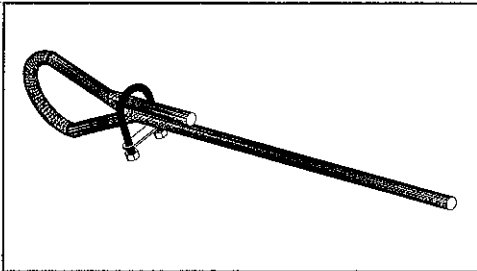

figure 8
3. Route 1 end of the lift cable through the chain link welded to the brush head assembly upright. Loop the loose end around and secure it with a cable clamp (figure 8).
CAUTION – Install cable clamps as shown in figure 8; otherwise, the cable could slip, possibly damaging the sweeper or injuring the operator.
4. Route 1 end of the lift cable through the chain link welded to the brush head assembly upright. Loop the loose end around and secure it with a cable clamp (figure 8).